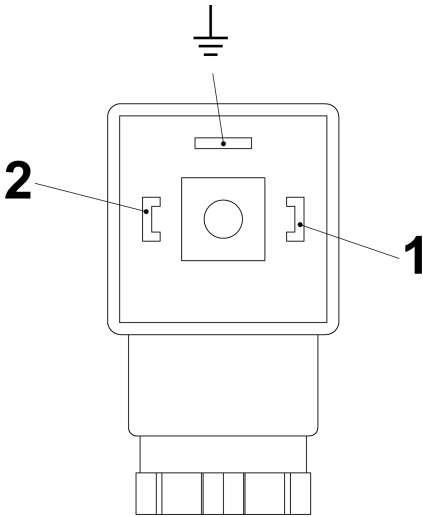
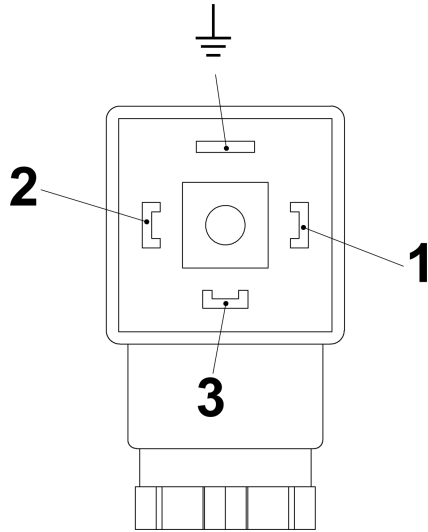

Fig. 25: Pin assignment, plug socket, normally-open contact (SG-30 with connector in compliance with EN175301-803)
Fig. 26: Pin assignment, plug socket, change-over contact (SG-30 with connector in compliance with EN175301-803)
6. ➤ Make the connections as shown in the connection diagrams (Fig. 25 and Fig. 26)